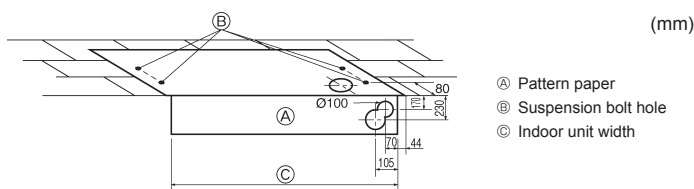

Fig. 3-3
3) Selection of suspension bolts and tubing positions (Fig. 3-3)